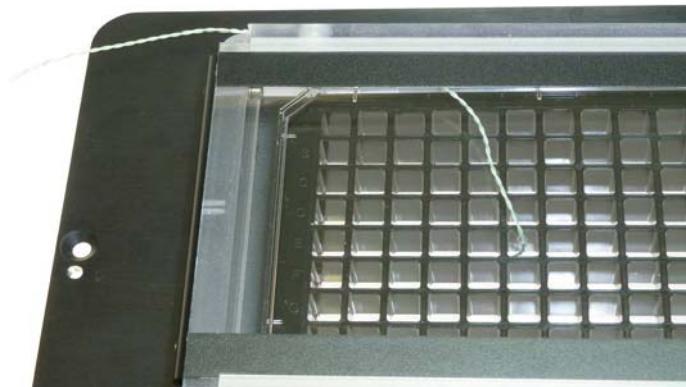

Figure 2: Sensor Placement for Temperature Calibration
- 2) Fill the multi-well plate you want to use with medium and place the sensor as close as possible to the future position of the cells. Use the prepared calibration set, which consists of a μ -Plate 96 well with a perforated lid, as shown in Figure 2 on page 20.